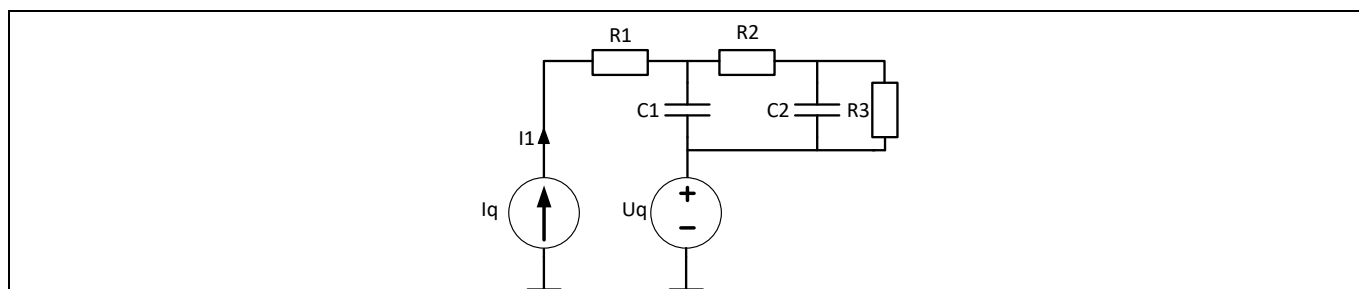

Figure 9 Equivalent circuit diagram to describe the thermal behavior of the 3-phase reference board
- The circuit shown in Figure 9 is a simplify circuit to fit the thermal behavior of the reference board without any cooling. Therefore the circuit consists of two RC cascades.